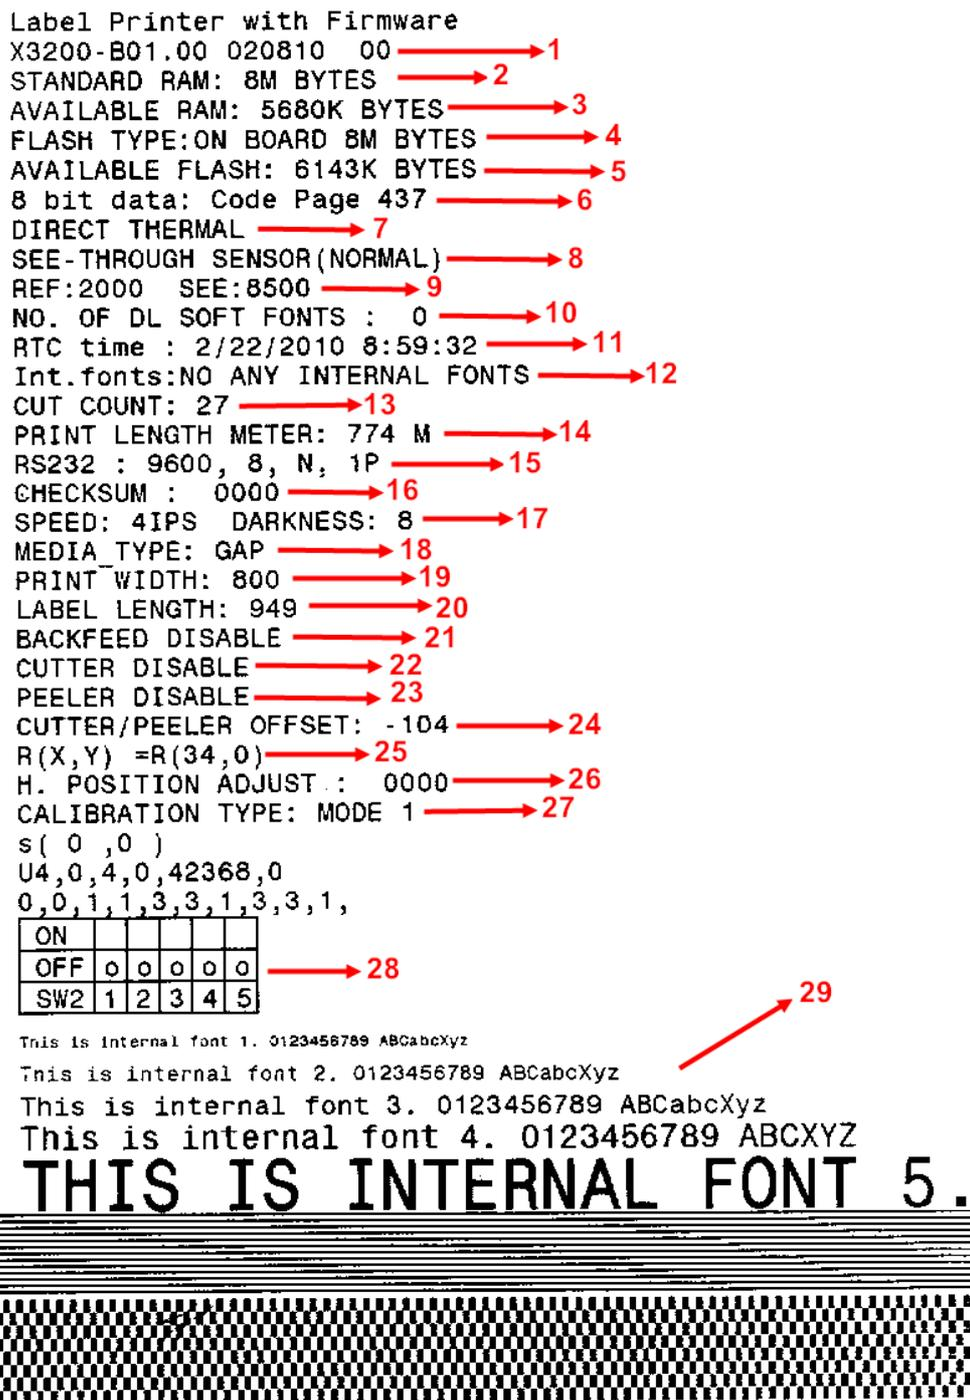

Figure 5.1
- The configuration report should be printed out as Figure 5.1.